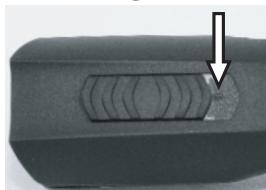

Fig. 4 Switch
1. Test the contacts of the clipper (1) and the battery (2) for foreign particles and contamination.
2. Assure, that the switch lever of the clipper is in OFF-position ("0") (fig. 4).
3. Insert the battery (2) in the clipper (3), until the battery interlock (1) is engaged on both sides.
4. Insert the clipper with the inserted battery (1) or insert just the battery (2) from above without force into the charging recess provided on the charging station.
6. Battery is charging. During the charging time the control light is illuminating red (3). As soon as the battery has been charged to a min. 90%, the indicator lamp will change to green and the charging station switch to "trickle charging".
7. Hold the charger firmly with one hand and pull the clipper (1) or the battery (2) out with the other.
1. Move the switch to position "0" (fig.4).
2. Push the battery interlock (2) on both sides inward and pull the battery (1) out of the clipper.